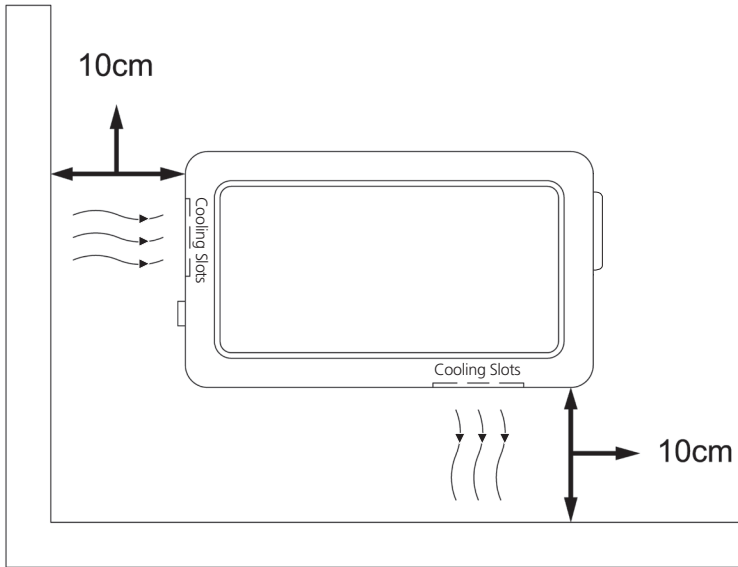

Fig. 3.1: Installation Clearances
- Ensure installation clearances are as shown in Fig. 3.1 above for proper cooling.
- Place the unit in a cool, well ventilated space that has adequate cool replacement air (Fig. 3.1).